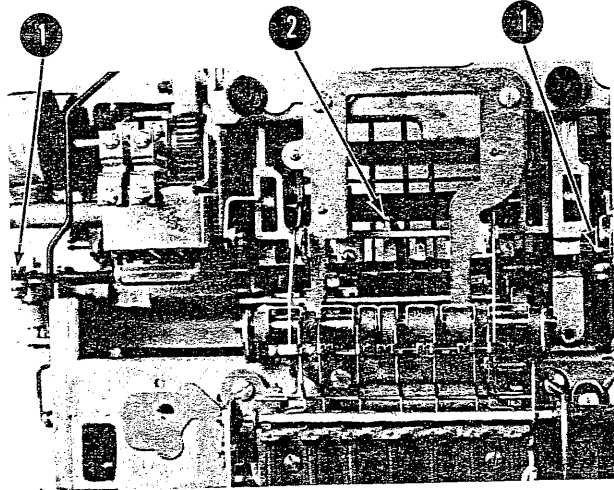

Figure 4-23. Rotate-Selection-Differential Removal (Steps 6 and 7)
6. Disconnect the rotate link at both ends and remove it (No. 1, Figure 4-23).
7. Remove the latch-bail spring (No. 2, Figure 4-23).